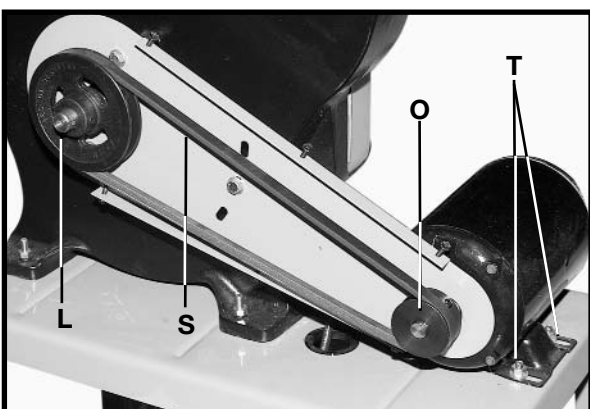

Fig. 15
7. Attach the drive belt (S) Fig. 15 to the arbor pulley (L) and motor pulley (O). Use a straight edge to see if the arbor pulley (L) and the motor pulley (O) are aligned. Either pulley can be moved to create proper alignment by loosening the set screw. To adjust belt tension, loosen the four mounting bolts (T) (two of which are shown). Move the motor in or out until belt deflection is approximately 1/2" using light finger pressure. **NOTE:** After getting the correct tension on the belt and after aligning the pulleys, **tighten all mounting hardware.**